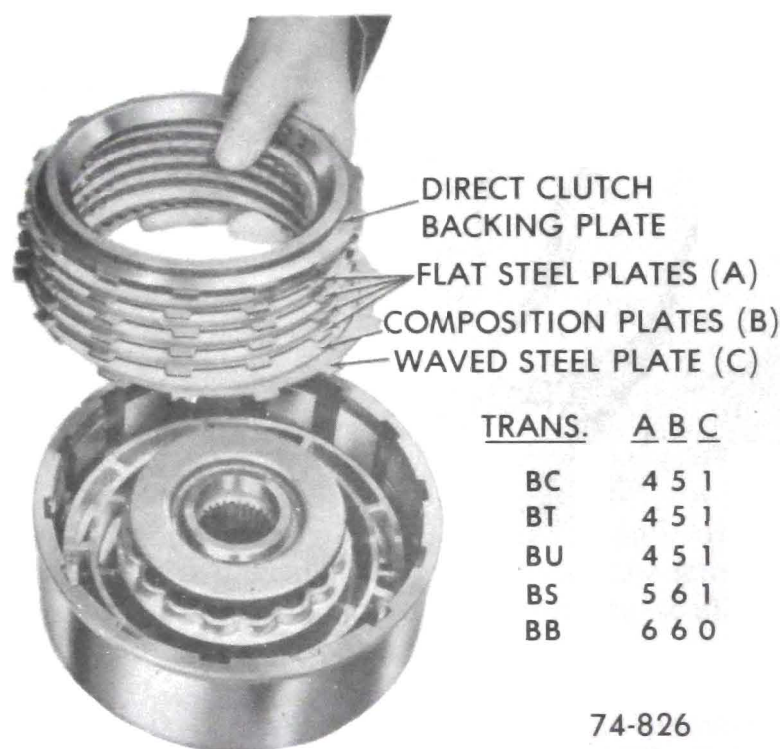
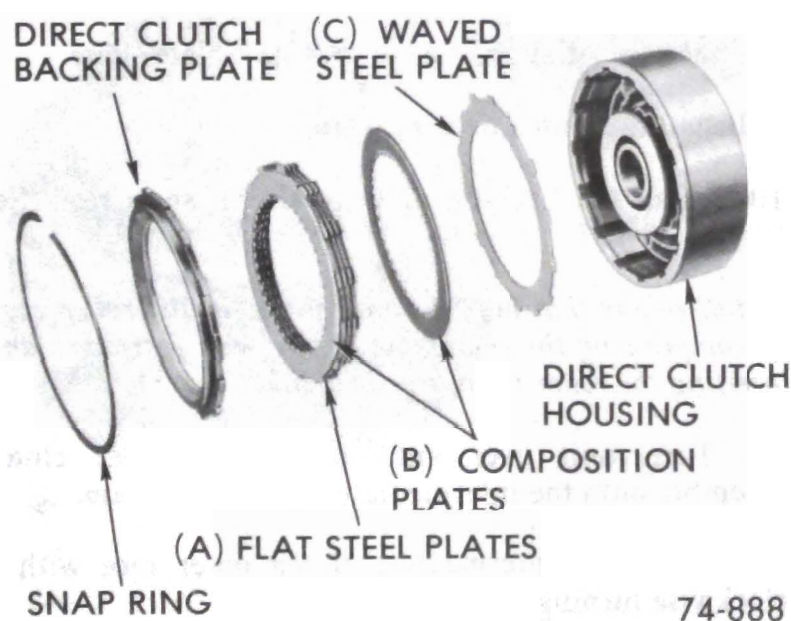

Figure 76-198
Figure 76-206
See Figure 76-198 for "A", "B", and "C" callouts on Figure 76-206.
starting with the waved steel and alternating composition and steel plates. See Figure 76-198.
- b. Models "BC", "BT" and "BU", lubricate with transmission fluid and install five (5) composition-faced, four (4) flat steel, and one (1) waved steel plate (plate with "U" notch), starting with the waved steel and alternating composition and steel plates. See Figure 76-198.
- c. Model "BB", lubricate with transmission fluid and install six (6) composition-faced and six (6) flat steel plates, starting with the flat steel and alternating composition and steel plates. See Figure 76-198.